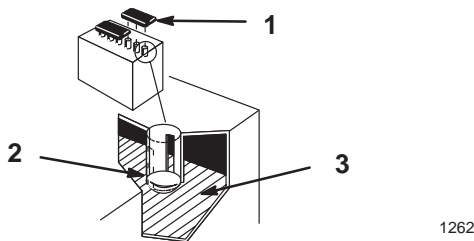

Figure 39
2. Lift off the filler caps (Fig. 39).
3. Slowly pour distilled water into each battery cell until the level is up to the lower part of the tube (Fig. 39).
2. Open covers to see into the cells. The electrolyte must be up to the lower part of the tube (Fig. 39). Do not allow the electrolyte to get below the plates. (Fig. 39).